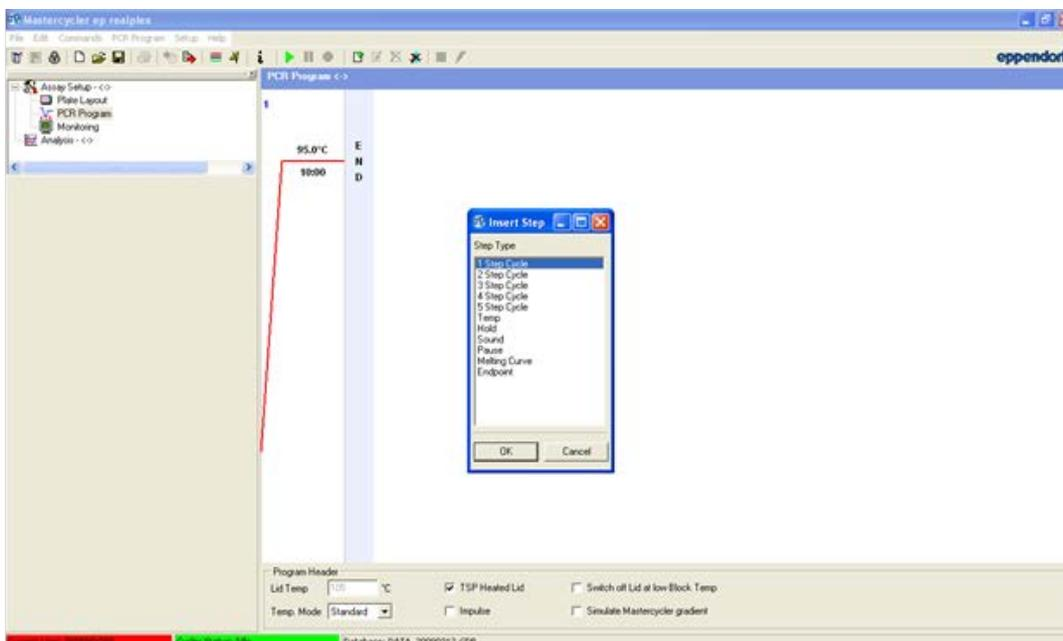

Figure 5. Adding 2-step cycle.
5. Right-click on "END." Select "Add Step", then select "2 Step Cycle" and click "OK" (Figure 5).